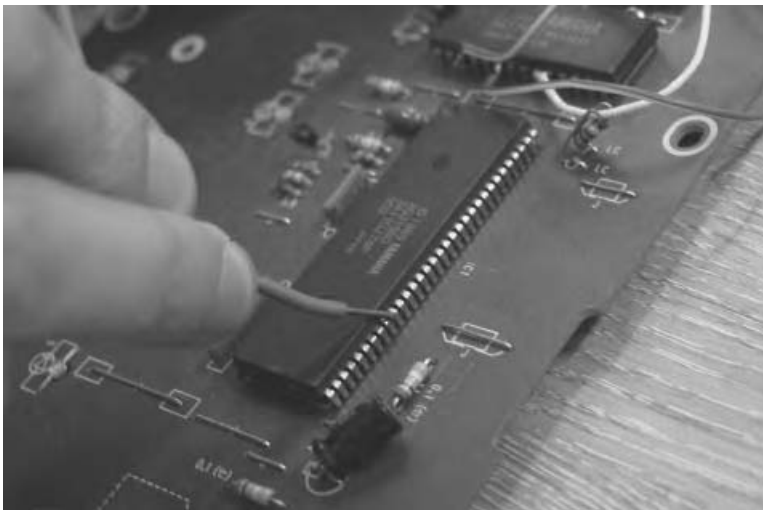

Figure 17.1 Phil Archer hunting for interesting sounds.
5. Turn the volume up just a little bit. Poke the free end of the resistor around the circuit board and listen to the different sounds (see figure 17.1). Adjust the volume as needed. Sometimes you can find very odd noises that seem completely unrelated to the basic sound of the toy. Hold on to the body of the resistor, rather than the bare wire, to minimize hum.